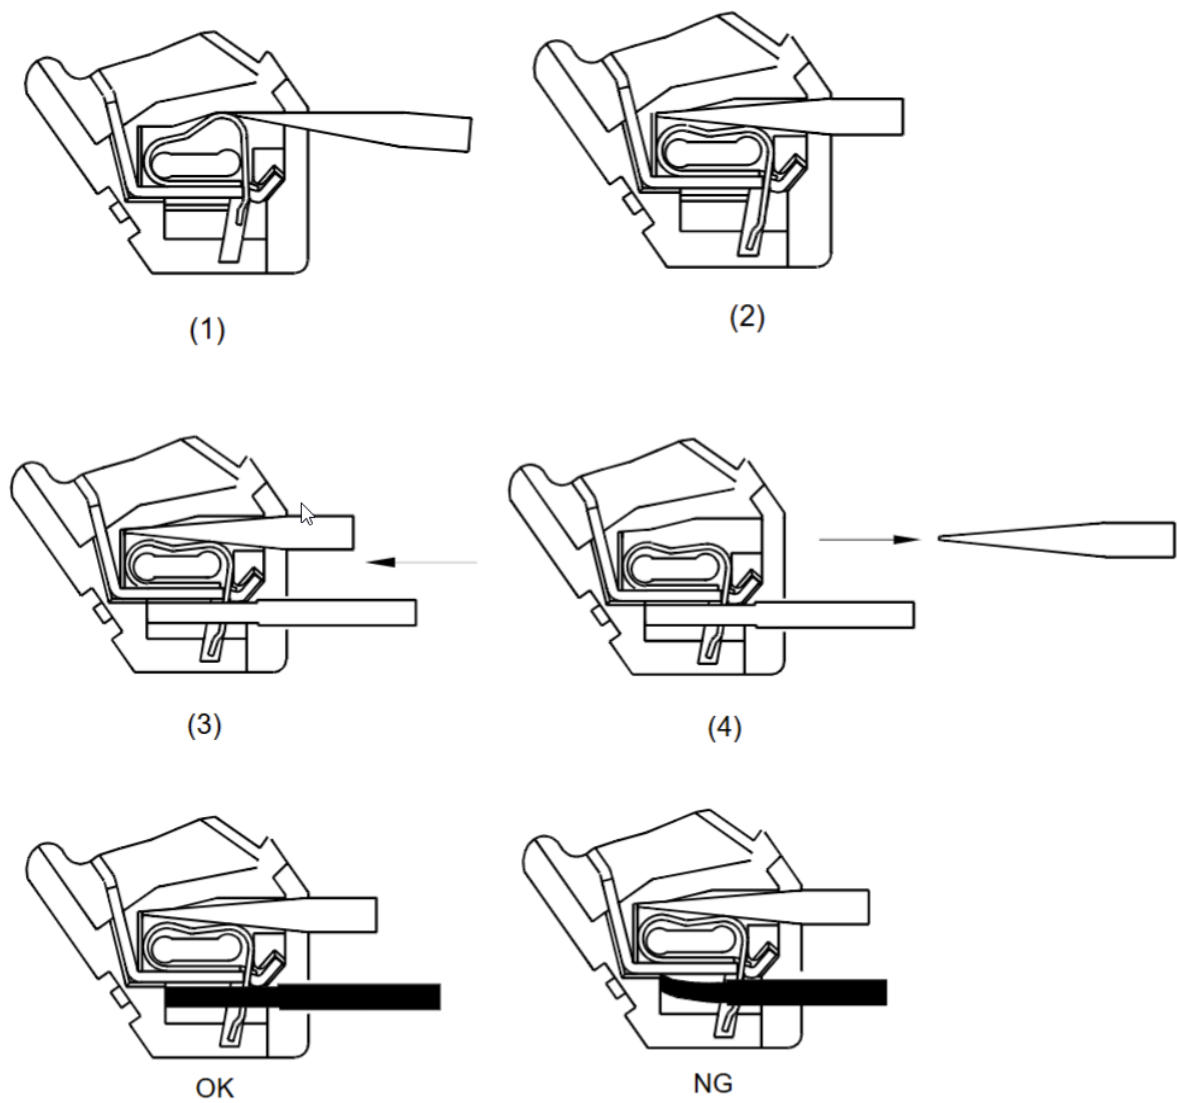

Figure 3
- The method of Wiring as shown in figure 3.